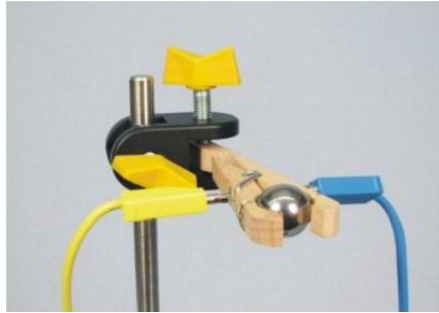

Figure 2.17: Adjusting the clamp.
- 5- Mount the clamp horizontally at the end of the rod as shown in Figure 2.17.